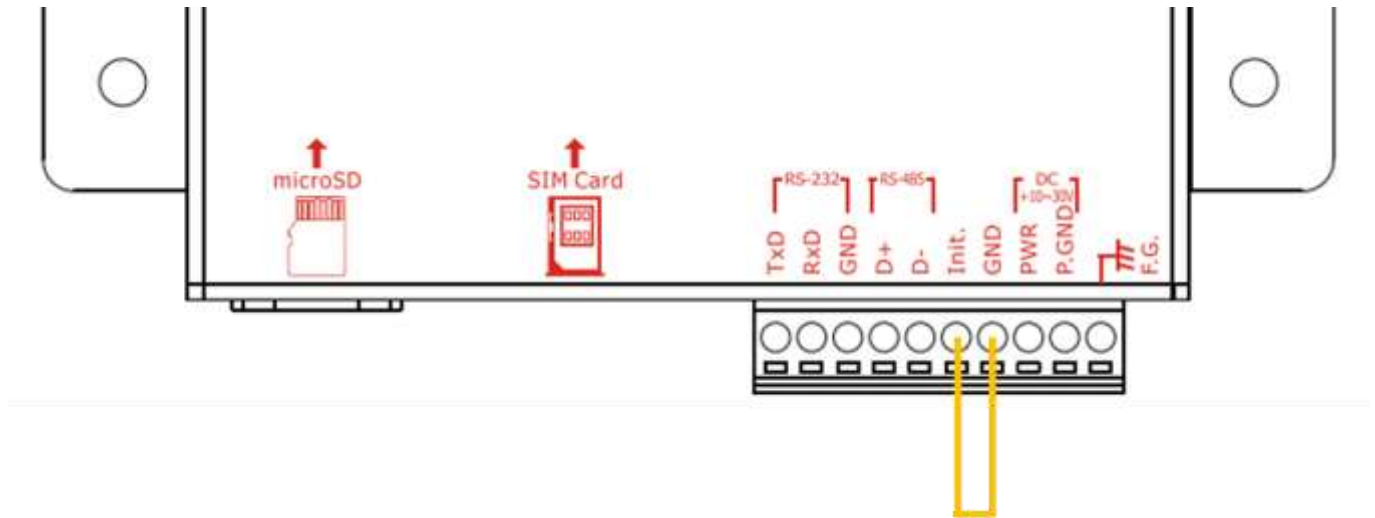

Figure 6.10.1
A.Determine that the 4th pin and the 5th pin on the GTP-541M are successfully connected, as shown in Figure 6.10.1